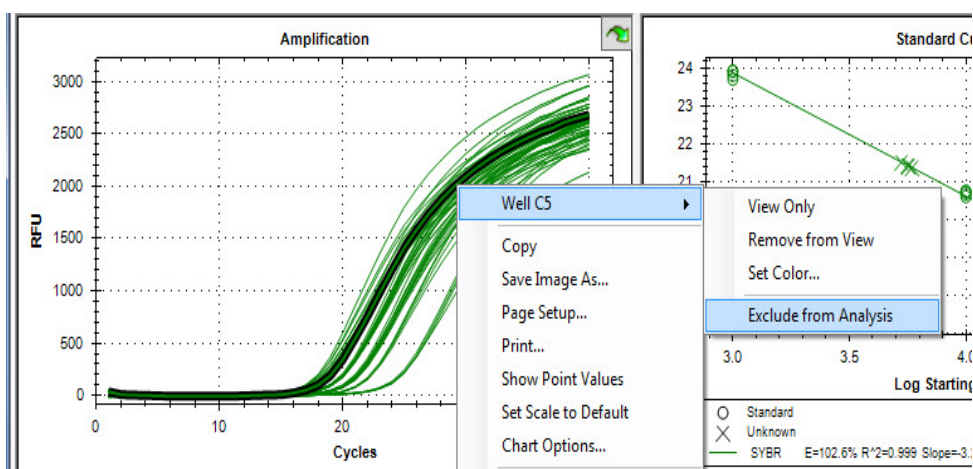

Figure 44. Right-click to exclude a well from analysis.
1. To exclude a single well, right-click on the well in the well selector, on a fluorescence trace, or on a point plotted on the standard curve, select **Well XX > Exclude from Analysis** (Figure 44).